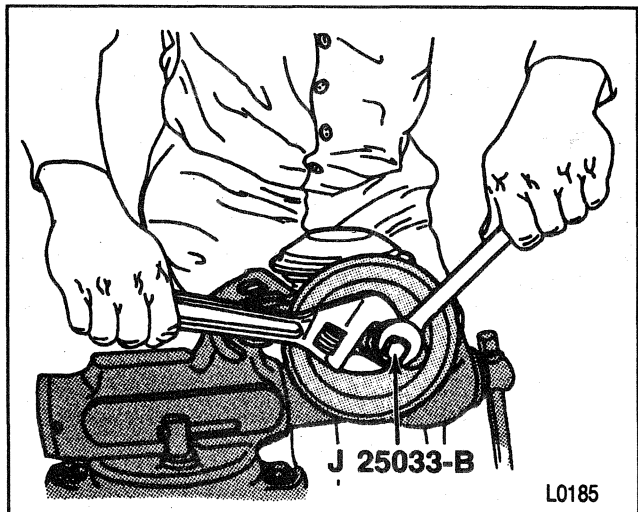

Figure 6—Installing Pulley
#### Assemble (Figure 6)
1. Pulley to the pump using J 25033-B until the pulley is flush with the end of the shaft (Figure 6).